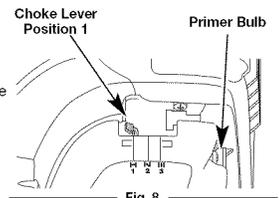
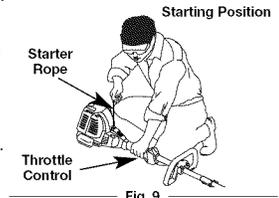

Fig. 8
Fig. 9
WARNING: Avoid accidental starting. Make sure you are in the starting position when pulling the starter rope (Fig. 9). To avoid serious injury, the operator and unit must be in a stable position while starting. Make sure that any Add-On item is installed correctly and secure before starting the unit.
- Fully press and release the primer bulb 10 times, slowly. Some amount of fuel should be visible in the primer bulb (Fig. 8). If fuel cannot be seen in the bulb, press and release the bulb until fuel is visible.
- Move the choke lever to **Position 1** (Fig. 8).
- Crouch in the starting position (Fig. 9). **SQUEEZE and HOLD the throttle control for ALL further steps.** Pull the starter rope 5 times.
- Continue to squeeze the throttle control.** Move the choke lever to **Position 2** (Fig. 8).
- Continue to squeeze the throttle control.** Move the choke lever to **Position 3** (Fig. 8).
- Crouch in the starting position (Fig. 9). Place the electric starter into the back of the unit. Refer to the *Operation* section of the Electric Starter operator's manual.
- SQUEEZE and HOLD the throttle control for ALL further steps.** Press and hold the electric starter ON (I) button for 2 seconds.
- Continue to squeeze the throttle control.** Press and hold the electric starter ON (I) button for 2-second intervals until the unit starts.